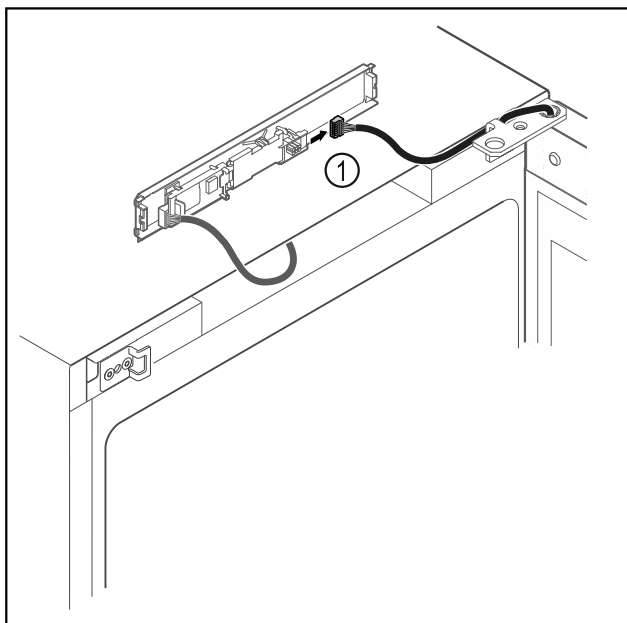

Fig. 14
- Disconnect the plug Fig. 14 (1) from the circuit board.